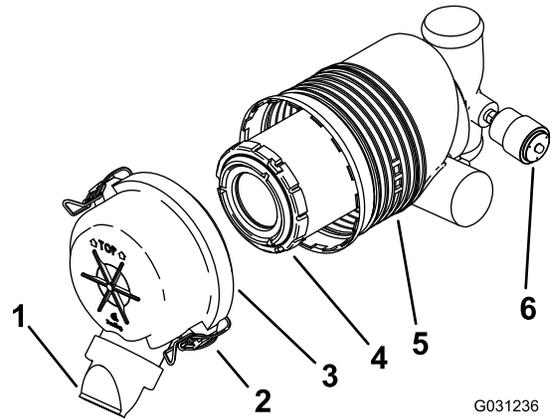

Figure 41
Important: Replace the air-cleaner filter only when the service indicator shows red (Figure 41). Changing the air filter before it is necessary only increases the chance of dirt entering the engine when you remove the filter.
5. Release the latches on the air cleaner and pull the air-cleaner cover off the air-cleaner body (Figure 41).
- If the service indicator is clear, install the air-cleaner cover with the dust cap oriented downward and secure the latches (Figure 41).
1. Gently slide the filter out of the air-cleaner body (Figure 41).
3. Carefully install the filter (Figure 41).
- Install the air-cleaner cover with the dust cap oriented downward and secure the latches (Figure 41).